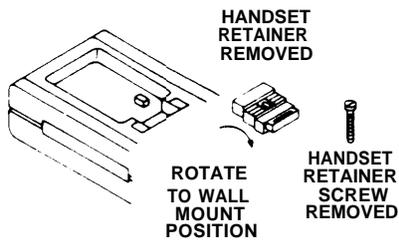

Figure 8
- Rotate the handset retainer 180 degrees end-over-end (see Figure 8).